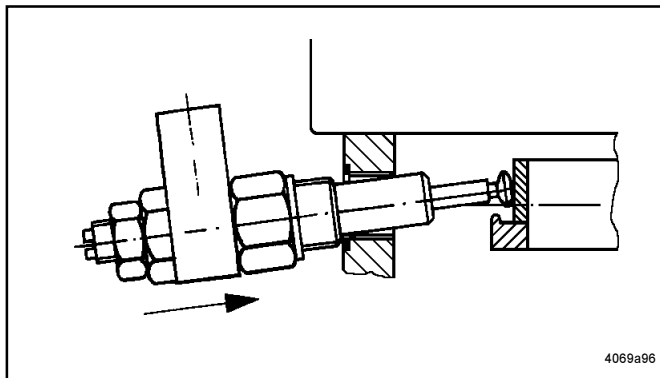

Fig. 7 - Inserting the pump element
- \* Insert the pump element (Fig. 7) in such a way that is slightly directed upward in order to prevent the delivery piston from falling down because it is not fixed within the pump cylinder.
- \* When disassembling or assembling (see Fig. 7) the pump element, direct it upwards in order to raise the delivery piston out of the groove of the eccentric ring.